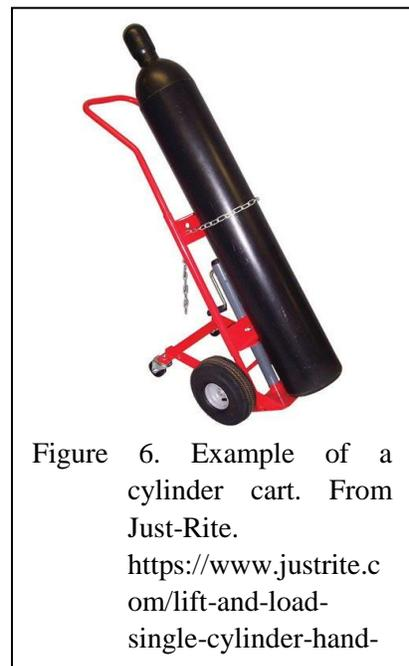

Figure 6. Example of a cylinder cart. From Just-Rite.
- Always use a cart or hand truck designed for this purpose (Figure 6). Ensure the cylinder is secured to the cart during transport with a chain or strap.